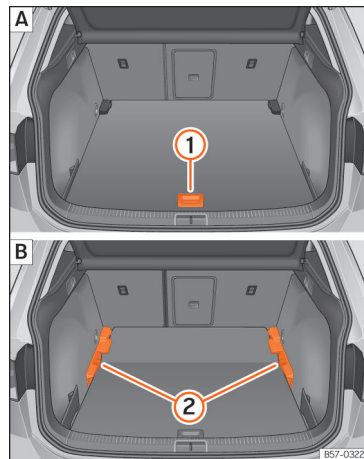

Fig. 171 Variable luggage compartment floor:
- To move from the low position to the high position, lift the floor using the handle »»» **Fig. 171** ①, and pull it back until the front of the floor has fully passed the supports ②.
- Move the floor forward over the supports as far as the rear seat backrest and then lower the floor with the handle ①.
- To move from the high position to the low position, lift the floor using the handle »»» **Fig. 171** ①, and pull it back until the front of the floor has fully passed the supports ②.
- Now let the front part fall to the floor and slide the floor forwards as far as the rear seat backrest; lower the floor at the same time with the handle ①.
- Lift the variable floor in the high position using handle »» Fig. 171 ①, pull it up and push it towards the backrest of the rear seats until it folds along the hinge line and the movable part of the floor is resting on itself.
- To move from the high position to the low position, lift the floor using the handle »» Fig. 171 ① and pull it back a little.
- Push the variable floor towards the folded rear seats with the handle ① using some downward pressure so that the moving part of the floor is flush with the backs of the rear seats.